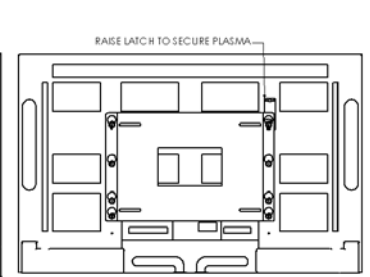

Figure 5
5. Raise safety latch to secure display (see Figure 5).